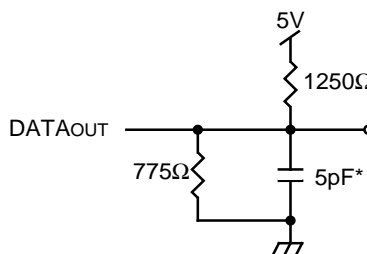

Figure 2. Output Load
1. Transition is measured ±500mV from Low or High-impedance voltage with Output Test Load (Figure 2).
1. Transition is measured ± 500mV from Low or High-impedance voltage from the Output Test Load (Figure 2)..
6. This parameter is determined by device characterization, but is not production tested. Transition is measured ±200mV from steady state with the Output Test Load (Figure 2).